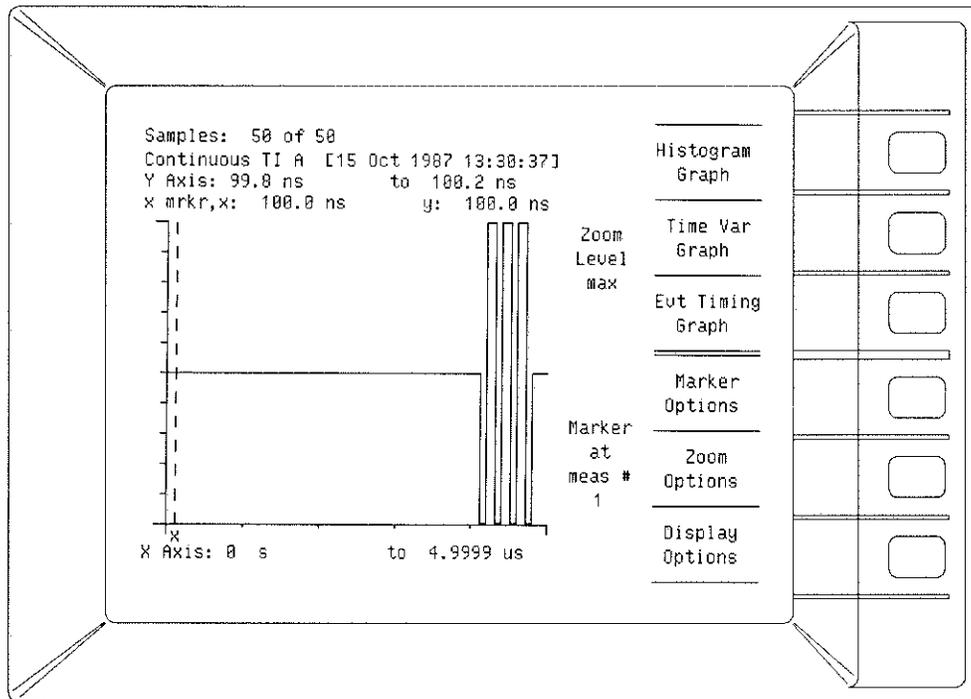

Figure 2-4. Time Variation Graph
- F. Press the **Time Var Graph** softkey. The variation of the frequency with time should be displayed. The Y-axis information line should display a range somewhere between 99.8 ns and 100.2 ns. The graph can show a frequency variance anywhere within these limits. One such graph is shown in *Figure 2-4*.